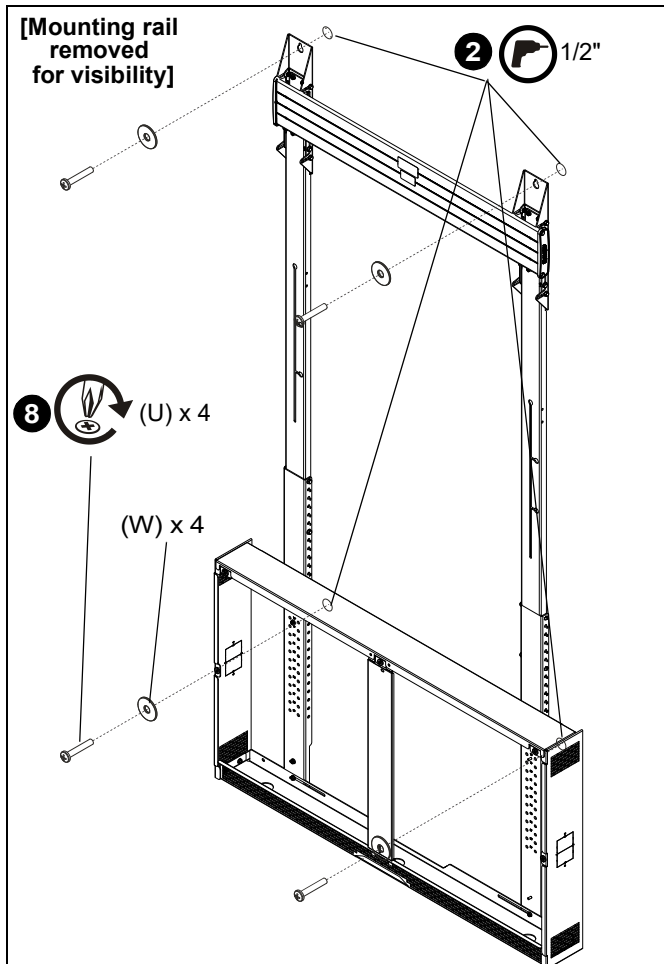

Figure 7
1. Mark hole locations at each mounting location based on locations of mounting brackets (Q). Use a level to ensure of an even mount. (See Figure 7)
8. Use four 1/4-20 x 1 3/4" Phillips pan machine screws (U) and four 1/4" washers (W) to secure bottom uprights (F/G) and mounting brackets (Q) to wall. (See Figure 7)